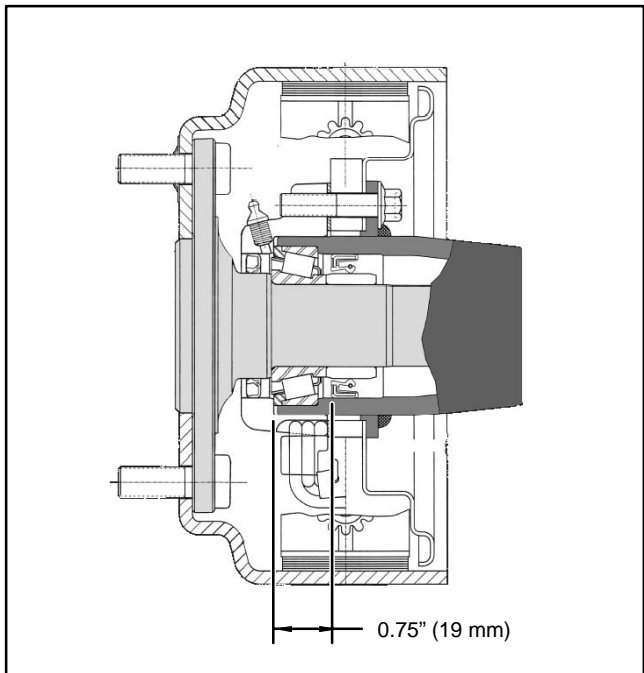

Figure 9
4. Coat a new inner shaft seal with a thin film of oil. Install the new seal to a depth of 0.75 in. (19 mm) into the housing (Fig. 9).